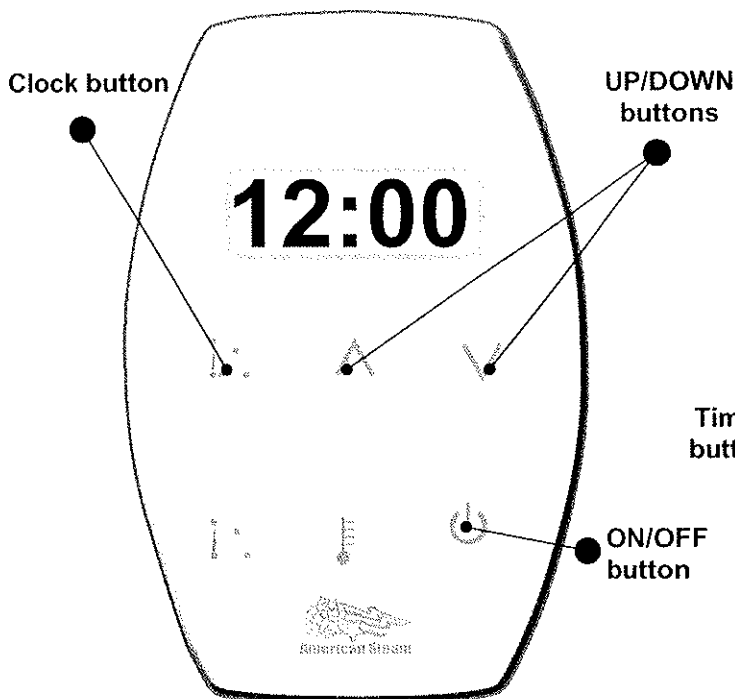

Figure 2
1. **To set the clock time**, turn the control on. In the display you will see "ON". Press and release the clock button. The time will display and will flash. Using the up/down buttons to adjust the time to the current time of day. After 4 seconds of no button pushes the time will be stored as time of day. Press the on/off button again to turn control off. (See Figure 2.)